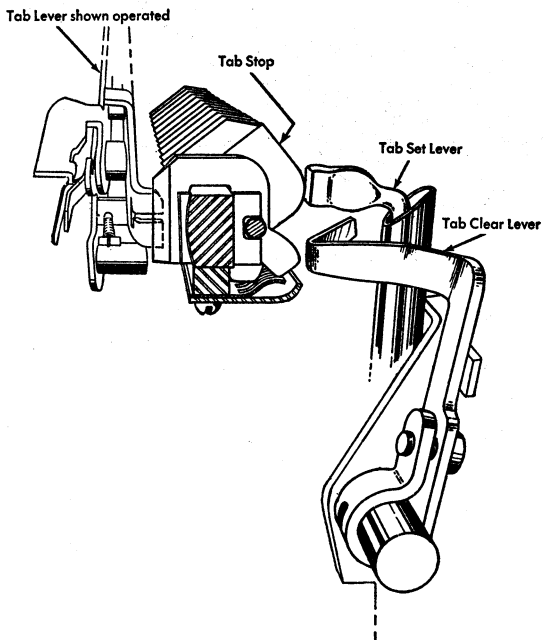

Figure 39. Tab Set and Clear Stops
12. TAB SET LEVER STOP. Form this so that when the tab stops are in the cleared position and the set lever at rest, it will clear the stops by approximately $1/32''$ (Figure 39).
13. TAB CLEAR LEVER STOP. Form this so that when the tab stops are in the set position there will be a clearance of approximately $1/32''$ between the rear projection of the set tab stops and the tab clear lever (Figure 39).